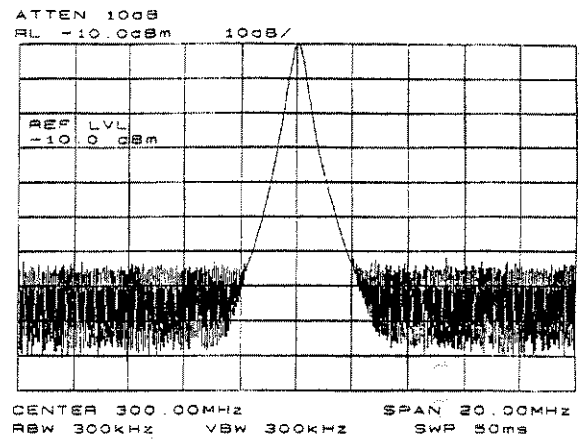

Figure 1-5. Signal Peak Set to Reference Level
3. Set the amplitude. Generally, placing the signal peak at the reference level provides the best measurement accuracy. To adjust the signal peak to the reference level (Figure 1-5), press **AMPLITUDE**, then key in 10 **dBm**, or use either the step keys or the knob. Using the knob is the easiest way of fine-tuning the signal peak to the reference level, which is at the top of the screen.